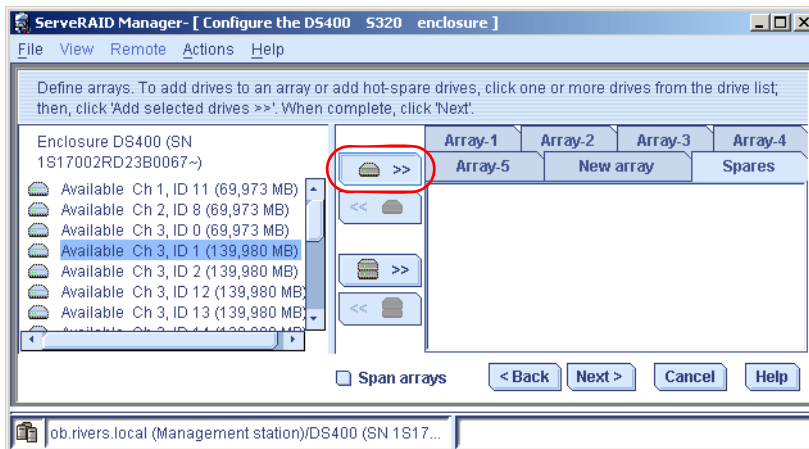

Figure 4-95 Spares tab without spare drive
11. Select the physical drives which will be the hotspares. Then click the **Add selected drives to array** button. See Figure 4-95.